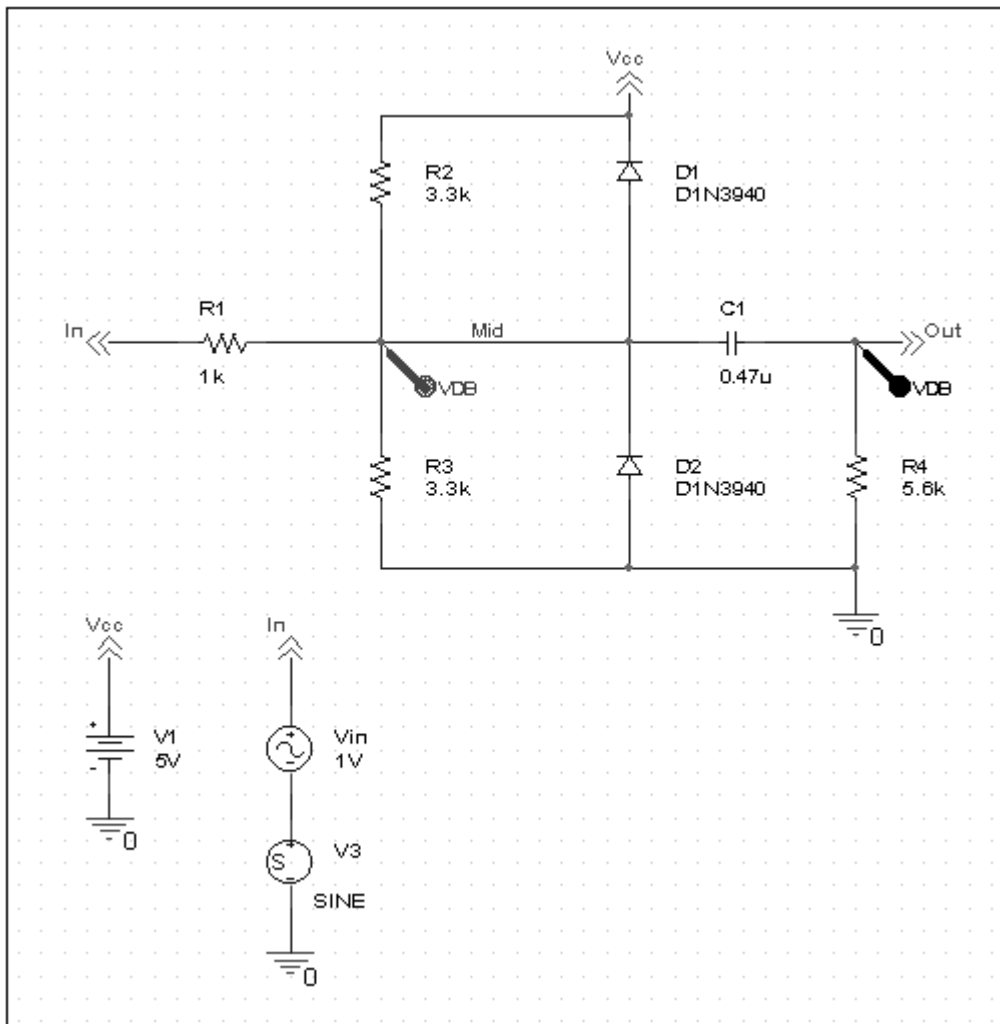
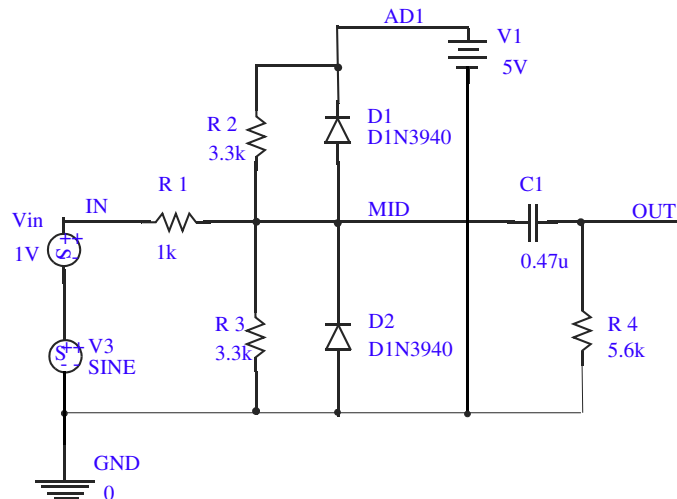

Figure 2-19 Clipper circuit with AC stimulus in capture.
Figure 2-20 Clipper design with AC stimulus in Design Entry
In this example, you will set up the clipper circuit for AC analysis by adding an AC voltage source for a stimulus signal (see Figure 2-19 and Figure 2-20) and by setting up AC sweep parameters.
5. Place the AC voltage source on the schematic page, as shown in Figure 2-19.
6. In the *Cells* list box, select VAC and place the part on the schematic page as shown in Figure 2-20.